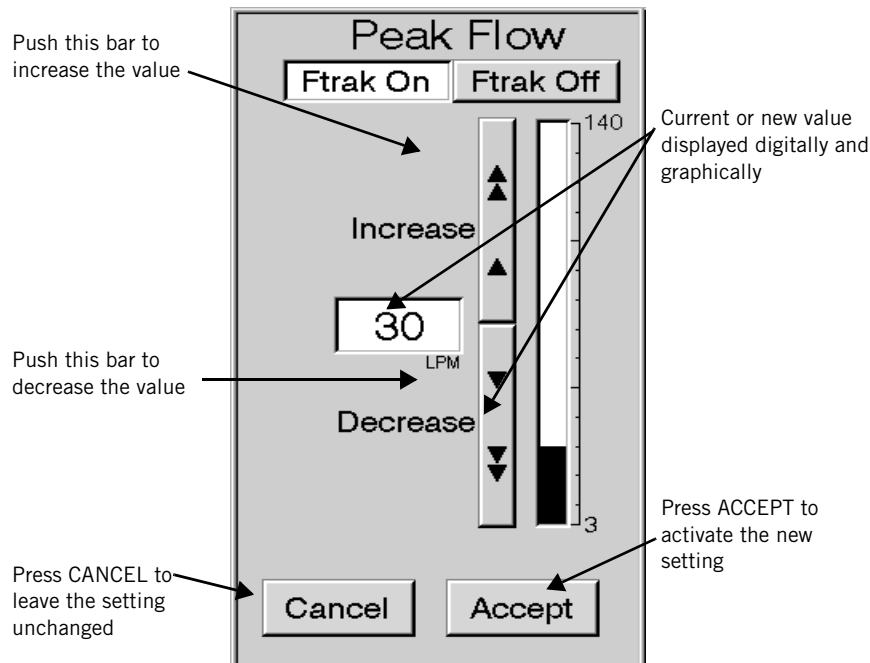

Figure 8-14: Changing a Setting
2. Push the button for the control settings you want to select. The ventilator displays the current value for that parameter in an insert that allows the operator to adjust the settings value. (Figure 8-14).
When a value is entered, as shown in Figure 8-14, the ventilator checks to assure that the value has been accepted by the operator, is within limits, and will not cause other settings to be out of limits. If the new value causes these limits to be exceeded, a diagnostic message will be displayed. (Refer to “Value Entry Message” on page 12-4 for more details about the diagnostic messages).
2. Push the button for the alarm limit you want to adjust. The ventilator displays the current value for that alarm limit in a display insert, similar to Figure 8-14.
5. Press the bar or use the front panel knob to adjust the value (as shown in Figure 8-14).